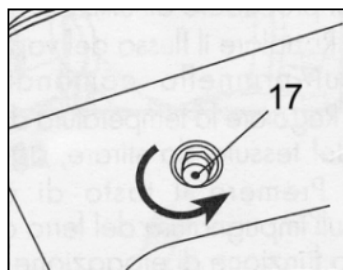

Fig. 17
In the event that the machine is not used for a long period of time, we recommend emptying completely the machine and the boiler by unscrewing the drain plug (17) (This is located on the bottom of the machine) Fig 17.